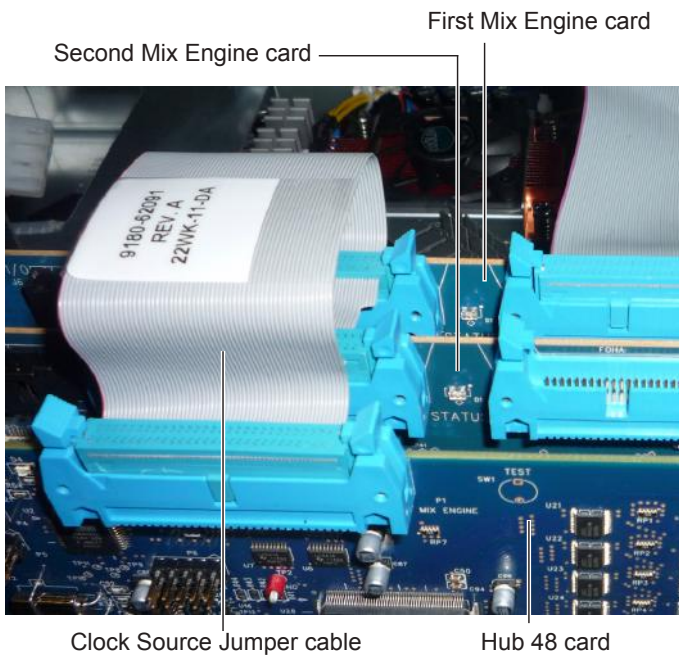

Figure 12. Mix Rack with a Clock Source Jumper cable
- If your Mix Rack has a ribbon cable with *three* connectors (the Clock Source Jumper cable) connecting the ports labeled “Snake” on the first and second Mix Engine cards to the port labeled “P1 Mix Engine” on the Hub 48 card (see Figure 12), disconnect this cable from both Mix Engine cards. Do *not* disconnect this cable from the Hub 48 card.
- For a Mix Rack with the Clock Source umper cable, connect the cable to the ports labelled “Snake” on the first (innermost) and second Mix Engine card (see Figure 12 on page 6). Make sure to orient the cable in the ports as it was originally oriented. This cable should *not* be connected to the third Mix Engine card (adjacent to the Hub 48 card).